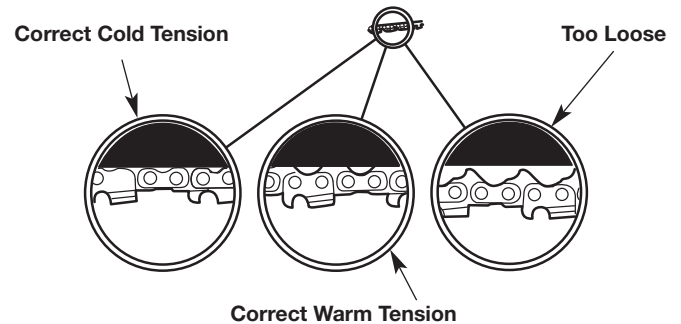

Fig. 27
The desired chain tension depends upon the temperature of the saw chain (Fig. 27).
- Cold Chain Tensioning - The saw chain should fit snugly against the underside of the guide bar. There should be no sag (Fig. 27).
- Warm Chain Tensioning - The saw chain will expand as it heats up during operation. The drive links should hang approximately 1/16 inch (1.3 mm) out of the guide bar groove (Fig. 27).